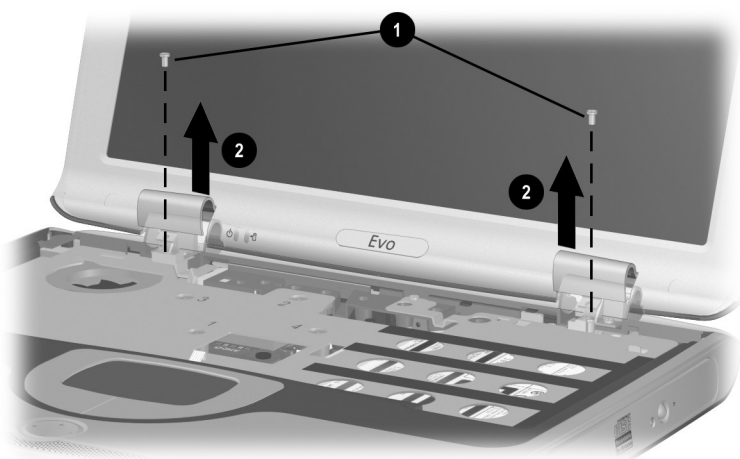

Figure 5-19. Removing the Hinge Cover Screws
4. Remove the two silver TM2.0 × 5.0 screws ❶ that secure the hinge covers to the base enclosure (Figure 5-19).
5. Lift the front edge of the hinge cover ❷ until it separates from the base enclosure.